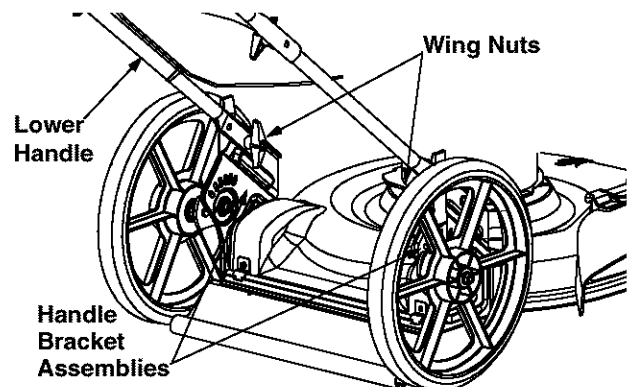

Figure 9
- Disconnect the handle from the handle bracket assemblies by removing the wing nuts. See Figure 9.